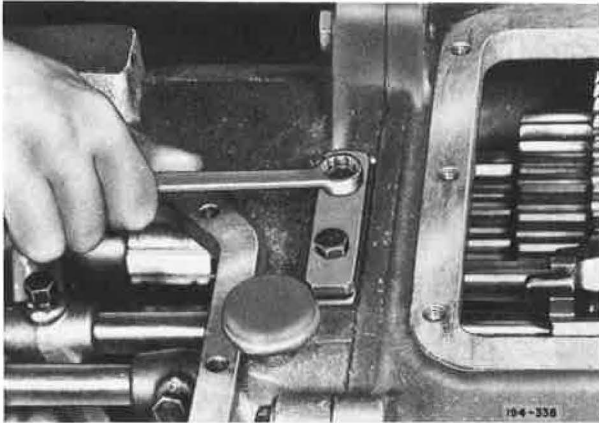

Figure 5-660. Tightening Shift Rail Poppet Ball Cover Capscrews
12. Install poppet ball cover with capscrews and tighten to recommended torque. See Figure 5-660.